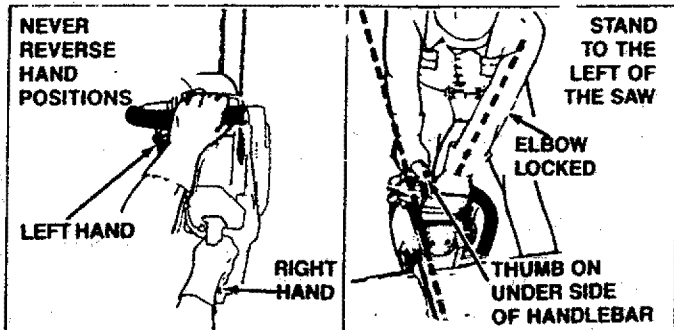

Figure 3
1. **Keep a good firm grip on the saw with both hands when the engine is running and don't let go.** Figure 3. A firm grip can neutralize kickback and help you maintain control of the saw. Keep the fingers of your left hand encircling and your left thumb under the front handlebar. Keep your right hand completely around the rear handle *whether you are right handed or left handed*. Keep your left arm straight with the elbow locked.
2. **Position your left hand on the front handlebar so it is in a straight line with your right hand on the rear handle when making bucking cuts.** Figure 3. Never reverse right and left hand positions for any type of cutting.
4. **Stand slightly to the left side of the saw to keep your body and head from being in a direct line with the cutting chain.** Figure 3.